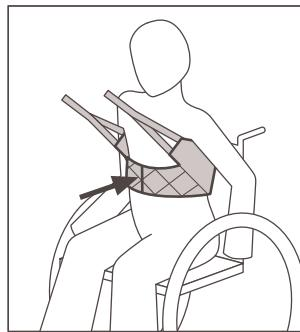

Figure 2
4. Fasten the vest round the clients waist by using the adjustable buckle and ensure that the clients arms are outside the Invacare Stand Assist sling. **Figure 2**.